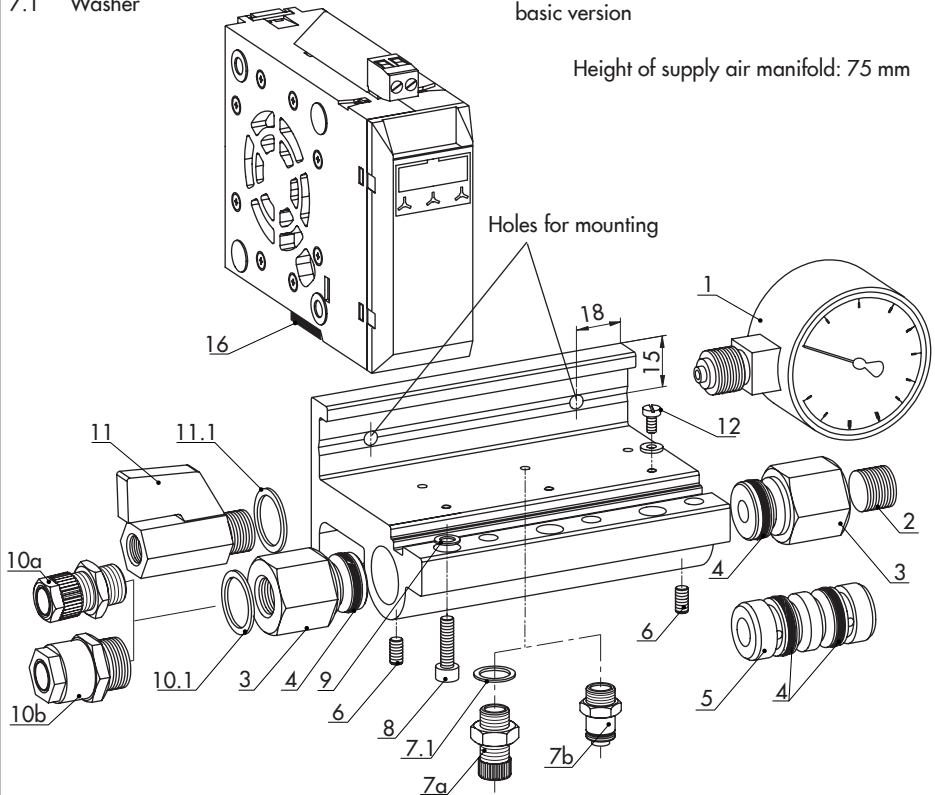

Fig. 11: Mounting with supply air manifold
The manifold (Fig. 11) is available as an accessories part and provides a common air supply for several Type 6111 i/p Converters. The manifold can be made to be as long as required by combining two or more connecting rails of the manifolds for 3, 4, 5 and 6 converters. Individual connecting rails are connected by a coupling (5, order no. 1400-7294) with seals (4).